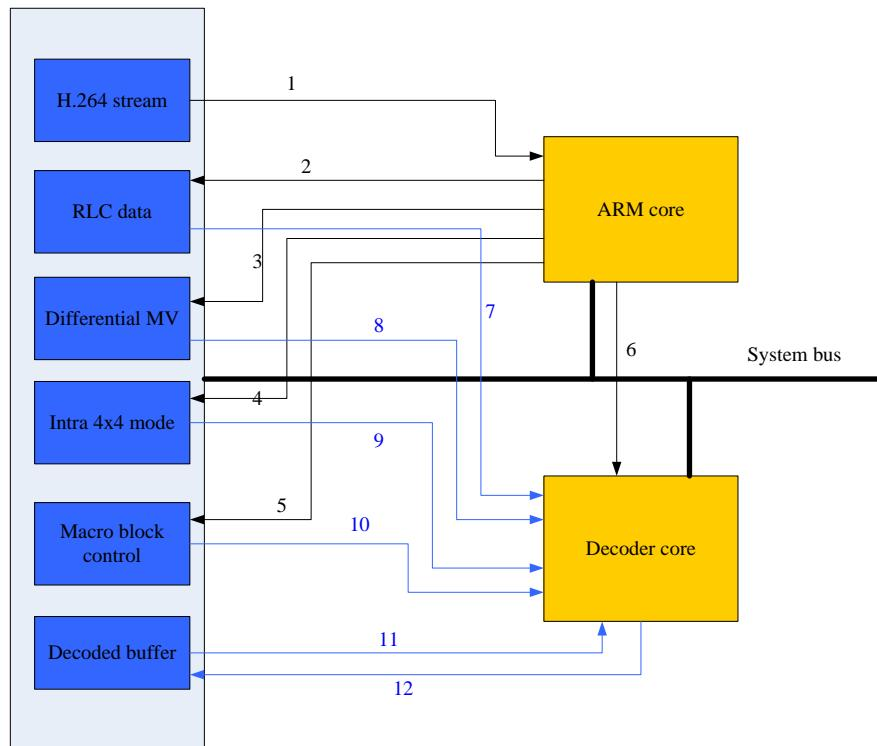

Fig. 5-5 Dataflow of SW performs entropy decoding in video decoder
SW entropy decoding mode (RLC mode) changes the input data format that is transferred from SW to HW. The dataflow of this mode is as Fig. 5-5. In this case the decoder software starts decoding the first picture by parsing the stream headers (1), and by performing entropy decoding. Software then writes the following items to external memory:
- Run-length-code (RLC) data (2)
- Differential motion vectors (3)
- Intra 4x4 prediction modes (4)